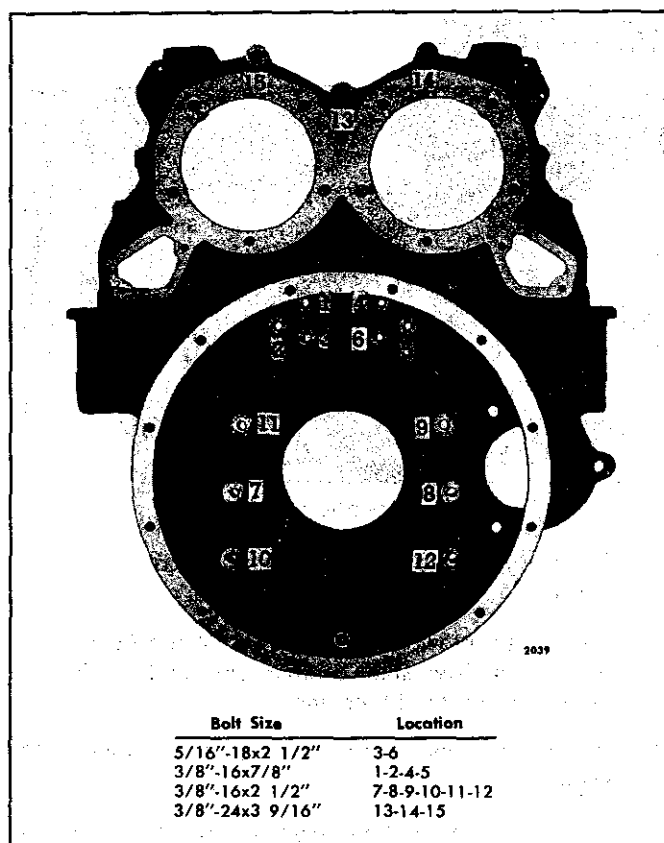
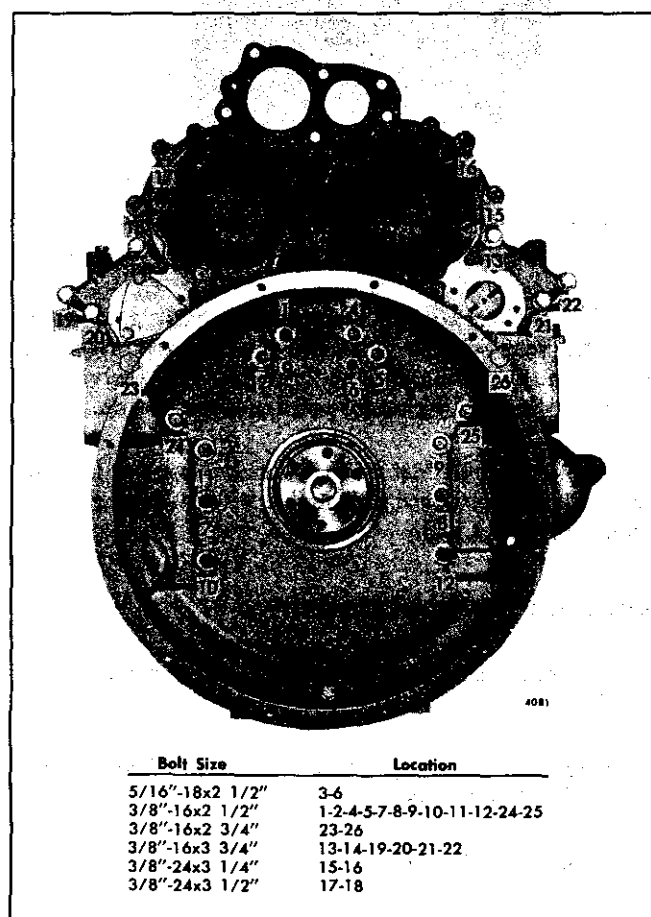

Fig. 3 – Flywheel Housing Bolt Sizes and Tightening Sequence (Operation 1)—In-Line Engine
Fig. 4 – Flywheel Housing Bolt Sizes and Tightening Sequence (Operation 1)—6V Engine
If the engine is equipped with a clutch housing, do not install the six bolts numbered 7 through 12 (Fig. 3) until the clutch housing is installed.
8. On an In-line right-hand rotation engine, start at No. 1 (No. 4 on left-hand rotation engine) and draw the bolts up snug in the sequence shown in Fig. 3. On V engines, start at No. 4 on a right-hand rotation engine (No. 1 on a left-hand rotation engine) and draw the bolts up snug in the sequence shown in Figs. 4 and 5.
**NOTICE:** Prior to Engine Serial Numbers 2D-903, 3D-011 and 4D-103, the bolts numbered 7 through 12 in Fig. 3 were all 5/16"-18 bolts and must be tightened to 19-23 lb-ft (26-31 N·m) torque.